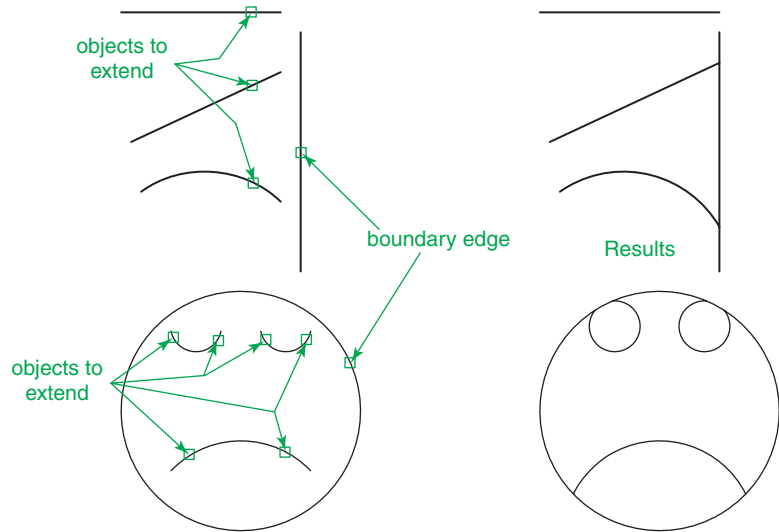

Fig. 5.40 Examples – Extend
Examples – Extend (Fig. 5.40)
1. Construct plines and a circle as shown in the left-hand drawings of Fig. 5.40.
The results are shown in Fig. 5.40.